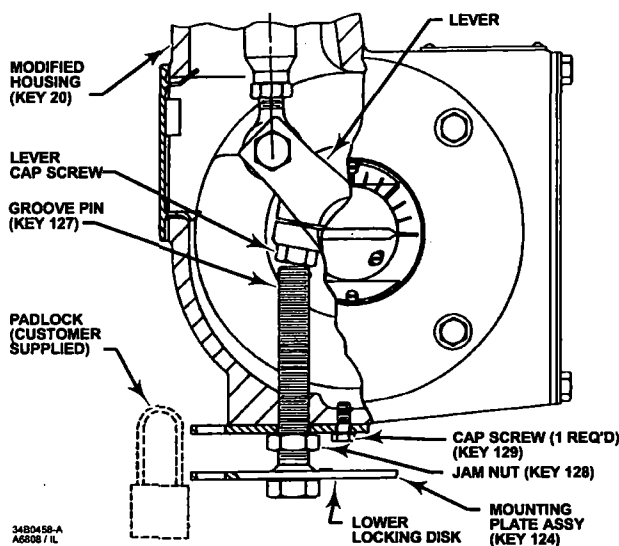

Figure 6. Actuator Locking Mechanism
Refer to figure 6 when installing, operating, and locking the mechanism. Key numbers are shown in figure 6 unless otherwise noted.
4. Attach the mounting plate (key 123) to the modified housing (key 20) as shown in figure 6. Attach it with
5. Make sure the jam nut (key 128) is threaded onto the threaded bolt before threading it into the housing.
6. After the bolt is threaded into the housing, install the groove pin (key 127) into the end of the bolt. (Note: The groove pin will prevent the threaded bolt from being totally un-threaded from the actuator housing.)
10. Screw the threaded bolt into the housing until it contacts the head on the lever cap screw (see figure 6).
11. Insert the padlock (not furnished by Fisher) to connect the mounting plate (key 123) with the lower locking disk on the mounting plate assembly (key 124). You might have to back off the lower locking disk a slight amount to line up the holes for the padlock.
2. Make sure the jam nut (key 128) is loose. Screw the threaded bolt into the housing until it contacts the head on the lever cap screw (see figure 6).
3. Rotate the threaded bolt until one of the holes in the lower locking disk (which is welded to the bolt) is in line with the hole in the mounting plate (key 123). Tighten the jam nut against the mounting plate.